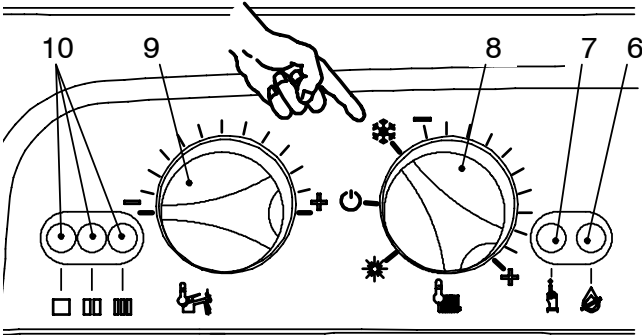

Fig. 7.9
- 9 Make a note of the position of the knob 9 and recorded this in Fig. 7.9 below with an *.
10 Turn the boiler OFF and ON positioning the function selector 8 as indicated in Fig. 7.9